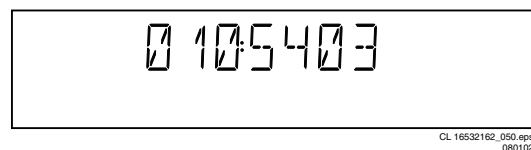

Figure 5-34
The loop test will perform the same nuclei as the dealer test, but it will loop through the list of nuclei indefinitely. The display of the DVD player will display not only the three digits indicating correct/faulty modules and the last found error code (as mentioned, faults are detected as far as they can be within the scope of the diagnostic software), but also a loop counter indicating how many times the loop has been gone through. If an error was detected, the display will remain as in figure 5-34 until the user presses the PLAY key and then it will continue to the next loop.
After one loop cycle: Display the 3-digit module bits together with the last error code which occurred in the loop test. The 4 digits at the right side of the display (fig. 5-34) show the last error that was found during the loop test. The leftmost two digits (54) of this code indicates which nucleus resulted in a fault. The rightmost two digits (03) refer to the faultcode within that nucleus. For further explanation of this error code, refer to chapter 5.8 (Nuclei Error Codes).